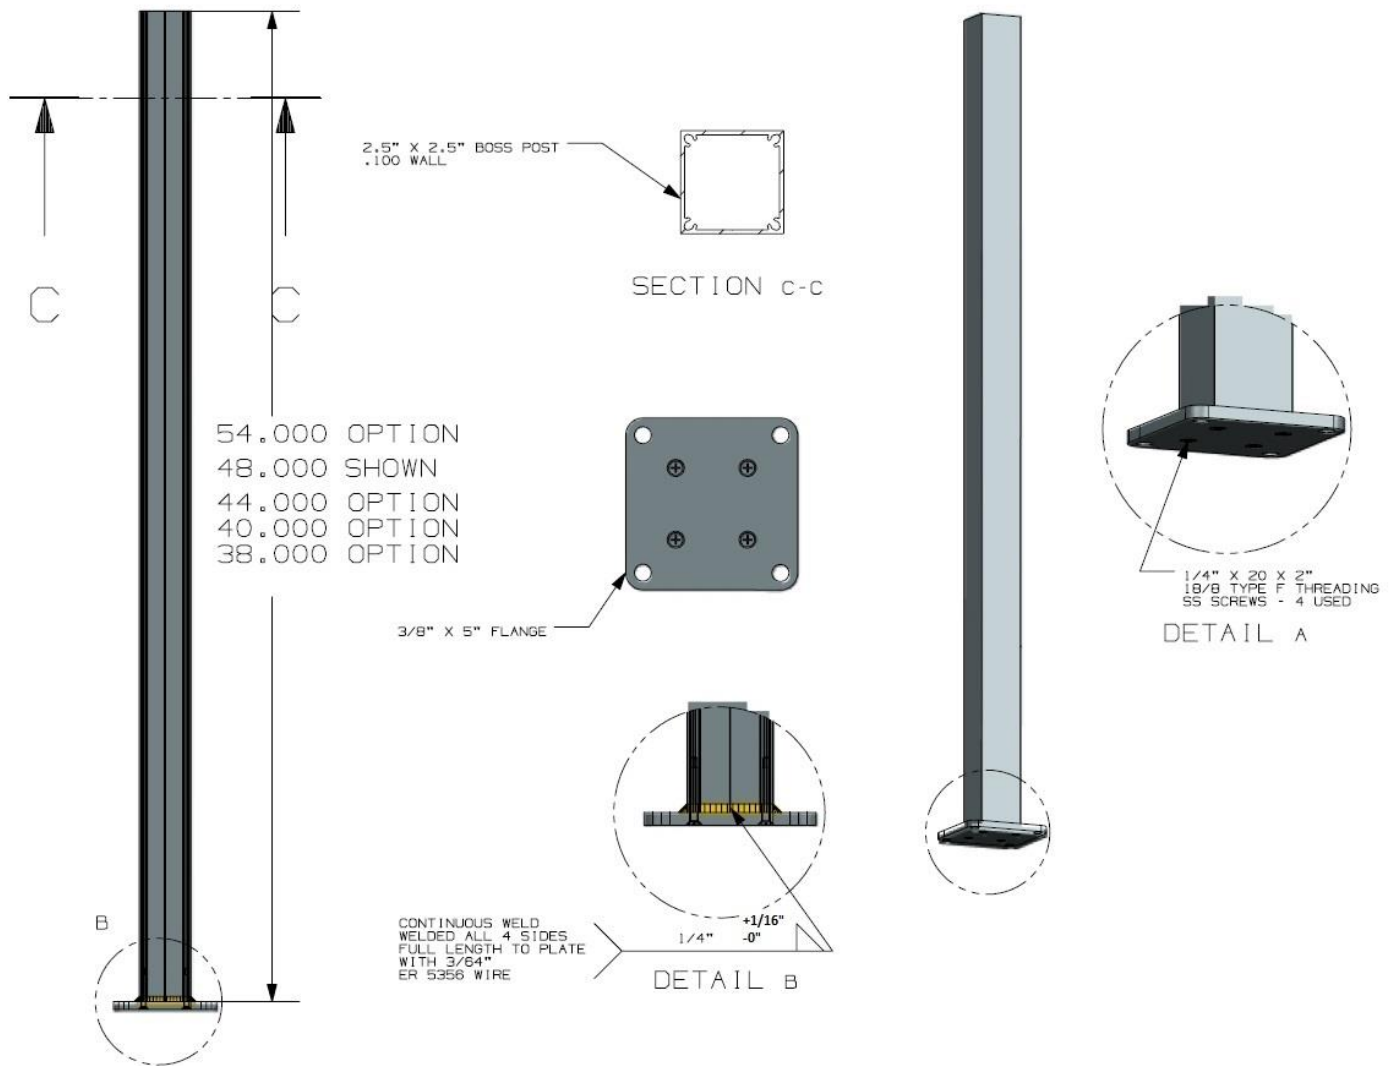

Figure 18 – 2-1/2 Inch Residential Post
3.8.1. The 2-1/2 inch square by 0.10 inch wall residential post is extruded 6005-T5 aluminum tube with internal screw slots. See Figure 18.